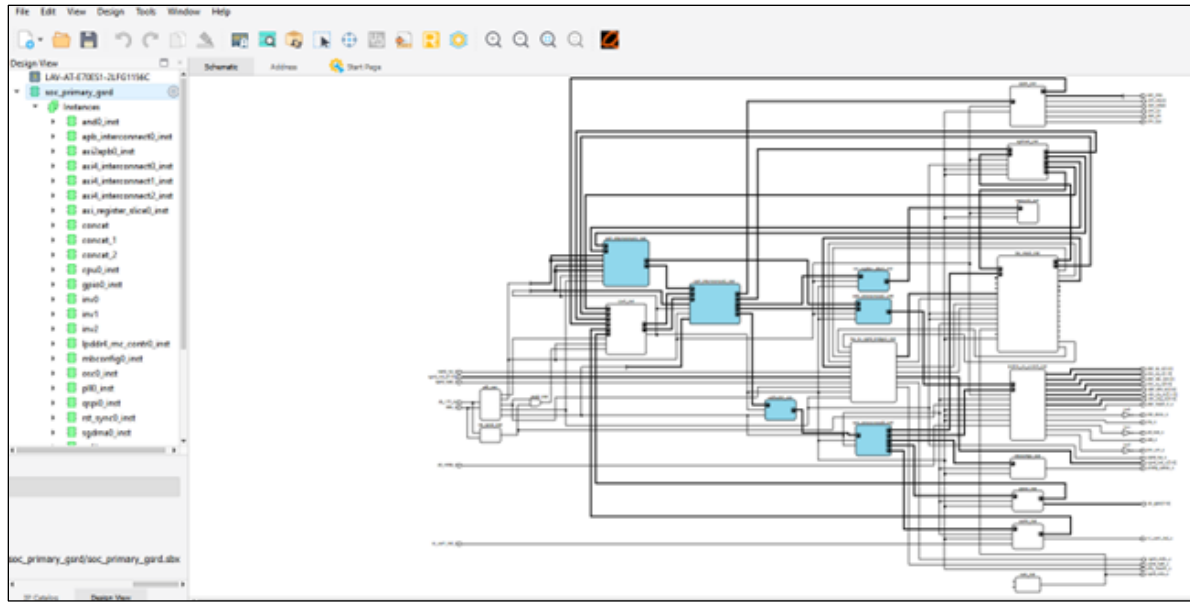

Figure 8.39. Propeller Builder SoC Project
2. The Primary GHRD SoC opens as shown as shown in Figure 8.39.